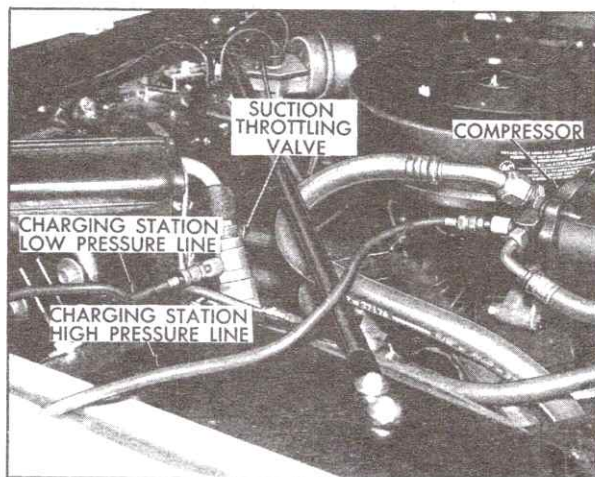

Fig. 1-25 Connecting Charging Station Lines
4. Connect Charging Station high pressure line to fitting on compressor, and low pressure line to gage fitting on suction throttling valve, Fig. 1-25.